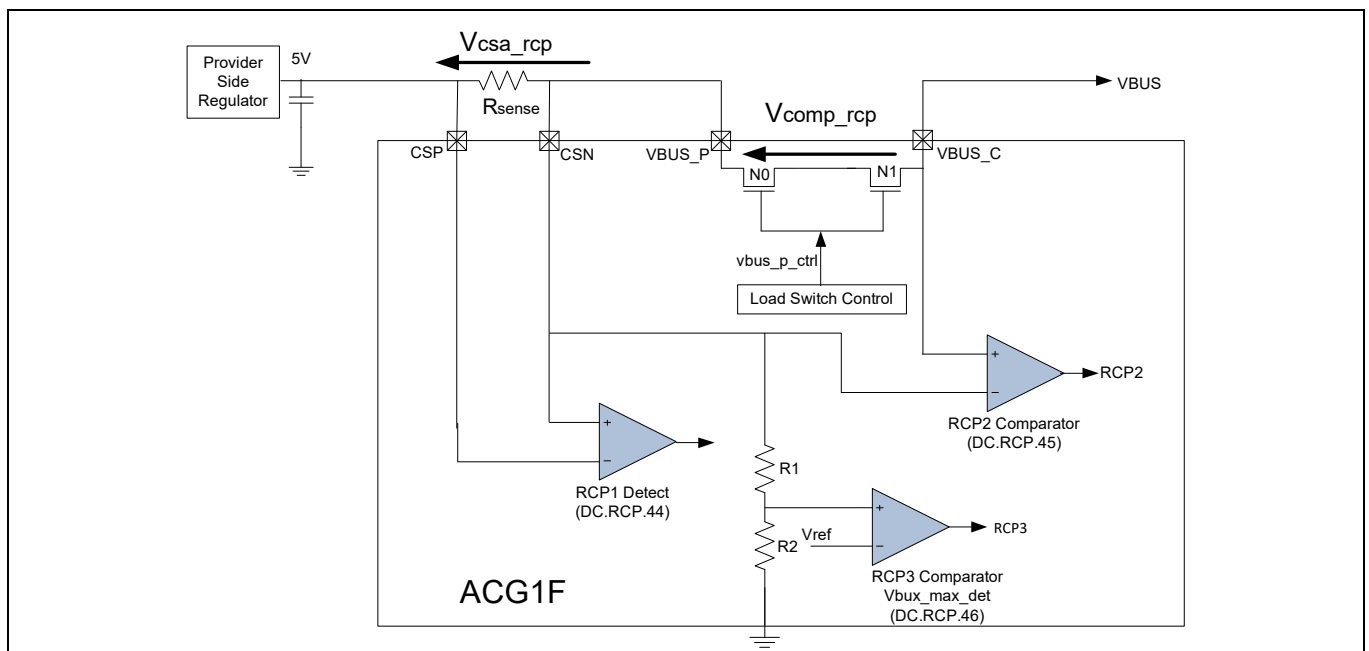

Figure 1-1 RCP Mechanism
ACG1F controller supports RCP in 40-QFN package. ACG1F integrates the RCP circuitry that has the capability of sensing reverse current that lasts for more than 10 μ s and protects the system by shutting down the Gate automatically upon detection of such events. ACG1F provides RCP circuitry that can detect reverse current flow from connector VBUS_C to provider VBUS_P. The RCP event is recognized whenever $VBUS_C > VBUS_P$ while provider FET is ON, causing current to flow from connector VBUS to provider VBUS. After recognizing the RCP event, the provider FET is shut down thus isolating the provider and connector VBUS. ACG1F has three distinct mechanisms to detect the reverse current as shown in Figure 1-1.
- Mechanism 1: A comparator senses the voltage drop across external Rsense through pins CSP and CSN. This comparator signals an RCP event whenever $CSN > CSP$ by the V_{csa_rcp} voltage given in Table 6-23. The output of this comparator RCP1 is shown in Figure 1-1.
- Mechanism 2: A comparator senses the voltage drop across provider FET through CSN and VBUS pin of ACG1F. This comparator signals an RCP event whenever $VBUS > CSN$ by the V_{comp_rcp} voltage given in Table 6-23. The output of this comparator RCP2 is shown in Figure 1-1.
- Mechanism 3: A comparator senses the 33.33% voltage of the CSN pin and compares it against $V_{ref} = 1.79\text{ V}$ for 5-V provider VBUS application. This comparator signals an RCP event whenever CSN voltage goes above $V_{bus_max_det}$ voltage given in Table 6-23 for a 5-V application. The output of this comparator RCP3 is shown in Figure 1-1. Note that V_{ref} is programmable and the voltage divider has an option to use 25% or 33.33% value which is configurable only through firmware. To change the V_{ref} value to 25%, contact local Cypress Sales Representative.